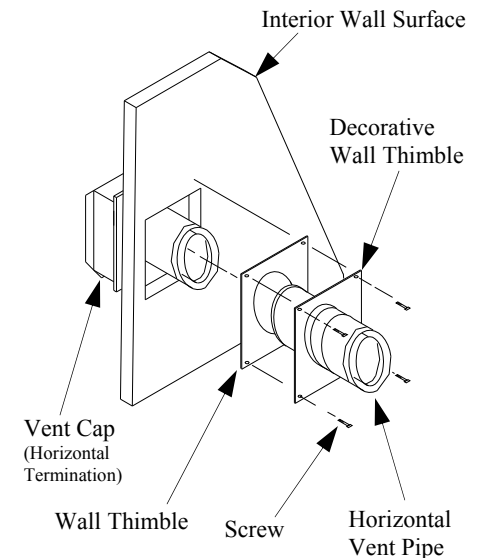

Figure 24— Connecting Vent Cap with Horizontal Vent Pipe
5. Slide the wall thimble over the vent pipe before connecting the horizontal run to the vent cap (see Figure 24).
7. Slide the wall thimble against the interior wall surface and attach with screws provided (see Figure 24).